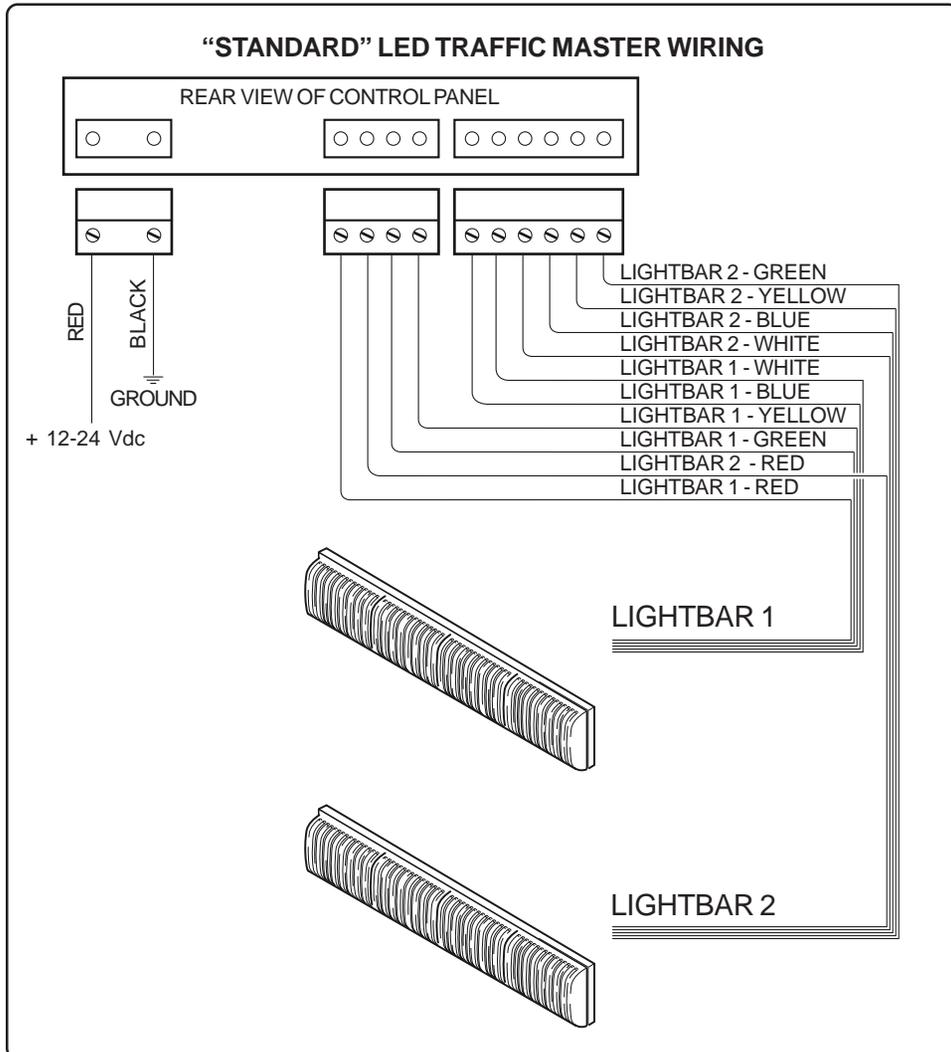

Figure 5. Standard and Optional Wiring Schematics
The Split Arrow LED Traffic Master should be mounted using the adjustable "L" brackets which are provided. Refer to page 5 for specific mounting instructions. In addition, note Figure 2, relating to mounting configurations and STANDARD or OPTIONAL wiring specification. See page 7, Figure 5 for specific wiring.
- Attach the power and ground wire to the appropriate pins in the 2 pin socket housing as shown in Figure 5.
- Attach the wires from the two 5 wire harnesses into the appropriate 6 & 4 pin connectors as shown in Figure 5. BE SURE TO PLACE THE PINS IN THE PROPER SEQUENCE!!!